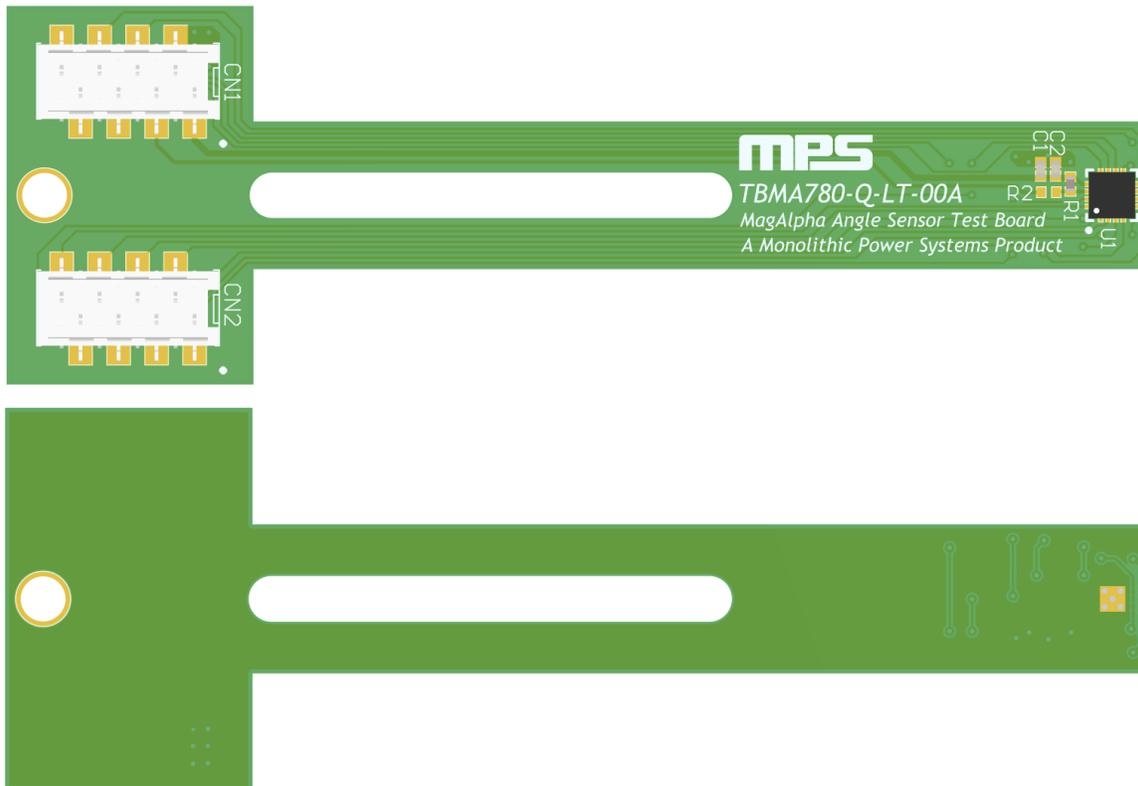

Figure 22: LT Board Overview Type 3
Figure 22 shows an overview of the Type 3 long (LT) board type.